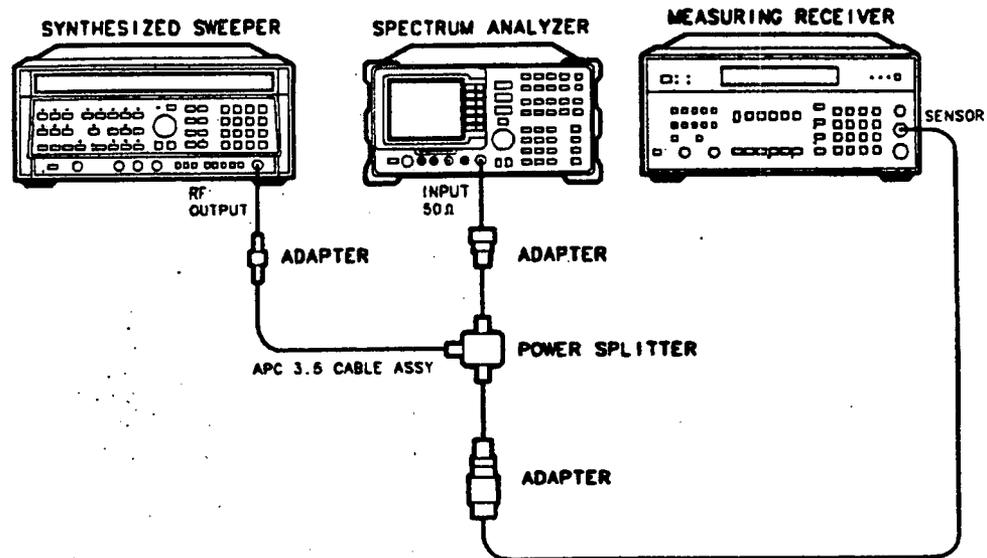

Figure 2-25. Frequency Response Setup
2. Connect the equipment as shown in Figure 2-25.